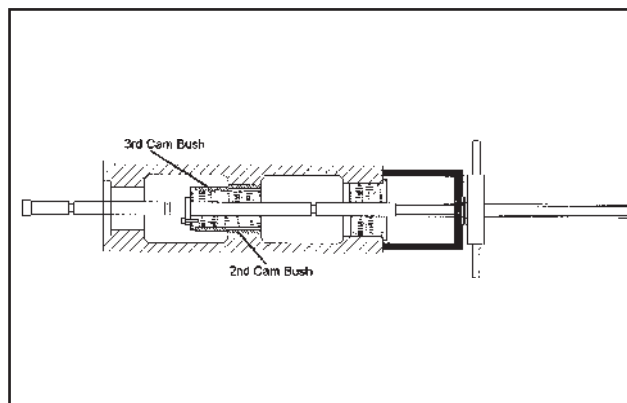

Fig. 6
7. Guide the extractor bunk along with the extracted 3rd bush in to the 2nd bush and continue to rotate the nut & handle assembly until the 2nd bush is extracted. **Fig. 6**